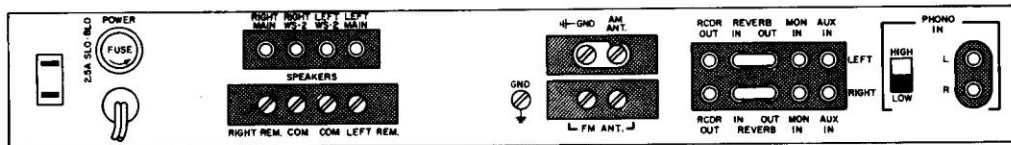

Figure 2. Bottom-Rear View of the Receiver Chassis
(This phenomenon is similar to 'ghosts' in TV pictures and can cause distortion, 'fuzziness', and reduced left-right separation in FM-stereo broadcasts.) In such cases, it may be necessary to replace the built-in antenna with an indoor 'rabbit-ears' or telescoping-dipole antenna that can be rotated for best reception of the desired signal and maximum rejection of the unwanted reflections. (This type of antenna is available at most electronic-parts dealers.) Disconnect the built-in antenna from the FM ANT. terminals (Figure 2) and connect the rabbit-ears antenna in its place, making sure that the antenna lugs or wires do not touch each other, adjacent terminals, or the metal chassis. Tune in several FM stations and turn the antenna for best reception in each case.
**IMPROVING FRINGE-AREA RECEPTION AND REDUCING ELECTRICAL INTERFERENCE**—In weak-signal 'fringe' areas, an outdoor antenna may be necessary, especially for effective, noise-free FM-stereo reception. If you already have an outdoor VHF television antenna, and most FM signals in your area come from the same general direction as the TV signals, the antenna may prove suitable for FM reception as well. To test it, disconnect the built-in antenna from the FM ANT. terminals (Figure 2) and connect the TV antenna in its place, making sure that the antenna lugs or wires do not touch each other, adjacent terminals, or the metal chassis. If the results are satisfactory, obtain a two-set antenna coupler so that you can operate both the TV set and the console from the antenna simultaneously.
If AM reception is marred because you live in a steel-frame building, or if you want to supplement the built-in AM antenna for improved reception of weaker stations, loosen the AM ANT. and GND screws (Figure 2) and swing the link between them out of the way. Retighten the GND screw and connect 10 to 20 feet of insulated, flexible, single-conductor wire to the AM ANT. terminal. Keep this wire away from all speaker, audio, and power cables. Run the wire in a straight line along a *non-metallic* baseboard or under a rug. In some cases, reception may be further improved by draping the wire out a window or by connecting it to an outdoor whip or rod antenna.
- (1) Turn off the console and disconnect its power cord from the electrical outlet.
- (2) Place the speakers to the right and left of the console as described in the WS-2 Operating Instructions.
- (3) Connect the speakers to the WS-2 jacks at the bottom-rear of the console (Figure 2). Make sure that the speaker at the left of your listening position goes to the LEFT jack while the speaker
The REM. and adjacent COM terminals at the bottom-rear of the console (Figure 2) provide convenient means for connecting a pair of remote extension speakers. This arrangement will enable you to enjoy stereo sound in another room of your home when you press in the REMOTE SPKRS pushbutton.
mono or stereo program source through its AUX IN jacks (Figure 2). Moreover, if the extra source normally plays through its own low-fidelity speakers and amplifiers, playing it through the console instead will improve its sound quality noticeably.
(1) Install the SPACEPANDER in a suitable location as described in its Instruction Manual.
(2) Remove the jumper wires that connect the REVERB IN and OUT jacks in each channel of the console (Figure 2), but keep them for future use in case you decide to disconnect the SPACEPANDER. **Either these wires or the SPACEPANDER must be connected to the IN and OUT jacks; otherwise, all program sources played through the console will be silenced.**
(3) Connect one of the SPACEPANDER's channel A INPUTS to the console's left-channel REVERB IN jack.
(4) Connect one of the SPACEPANDER's channel B INPUTS to the console's right-channel REVERB IN jack.
(5) Connect the SPACEPANDER's channel A OUTPUT to the console's left-channel REVERB OUT jack.
(6) Connect the SPACEPANDER's channel B or C OUTPUT to the console's right-channel REVERB OUT jack.
(7) Operate the SPACEPANDER as described in its Instruction Manual; adjust all console controls in the usual manner to suit your personal tastes and listening conditions.
- (2) The power fuse is in the black receptacle marked FUSE at the bottom-rear of the console (Figure 2). Turn the fuseholder cap to the left (in the direction of the arrow on the cap) until it disengages from the receptacle and remove the fuse from the cap.
- (3) The spare fuse supplied with the console has a short spiral coil of wire inside its glass envelope (identifying it as a slow-blow type). One of its metal ends is marked **2.5A**. Use only this fuse (or an exact commercial equivalent) as a replacement.
- (4) Insert the replacement fuse in the fuse cap. Push the cap into the receptacle and turn it to the right (against the direction of the arrow) until it is firmly in place. Connect the power cord to the electrical outlet and turn on the console.